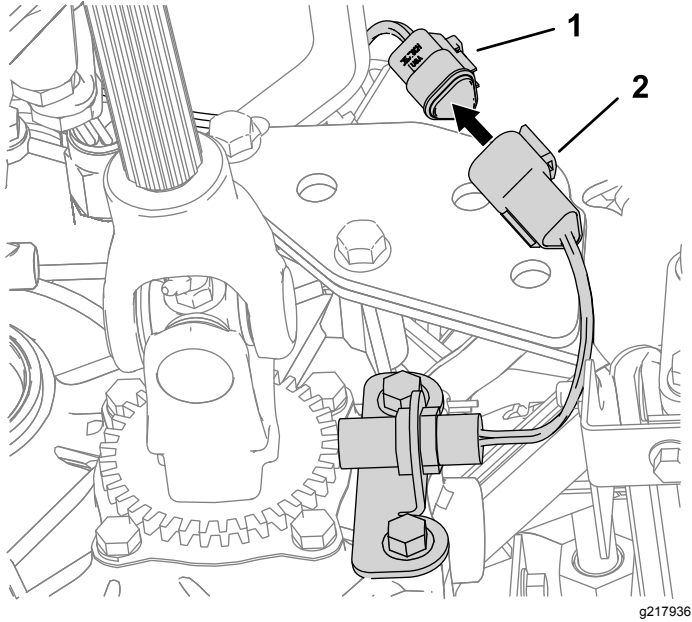

Figure 7
1. Connect the empty 4WD sensor socket to the 3-pronged plug of the kit wire harness (Figure 7).